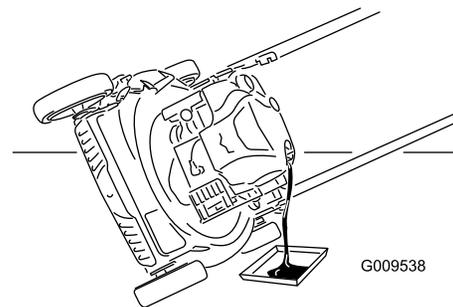

Figure 18
3. Tip the mower onto its side with the air filter up to drain the used oil out through the oil fill tube (Figure 18).